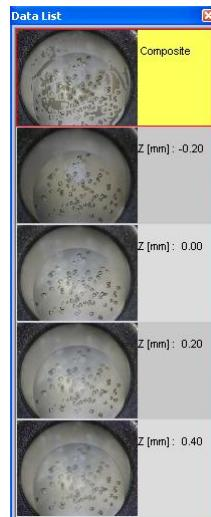

Figure 17 Data list window - optical
- Composite optical image. In this case, the optical images at different height slices are displayed adjacent to their z value height (Figure 17)